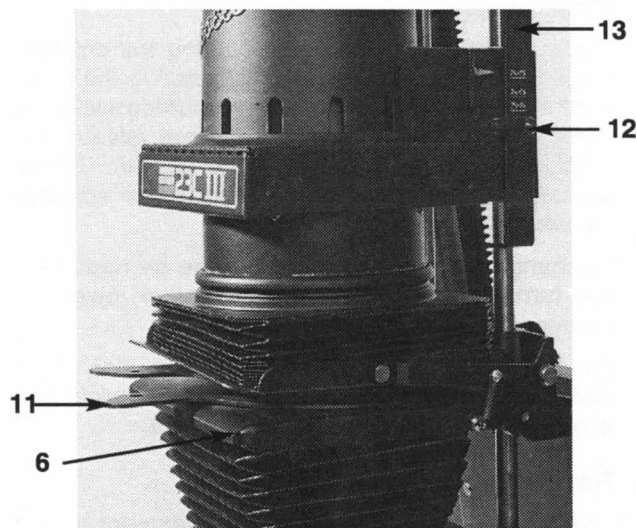

Figure 7
B. Positioning the Condenser Stage (Fig. 7)